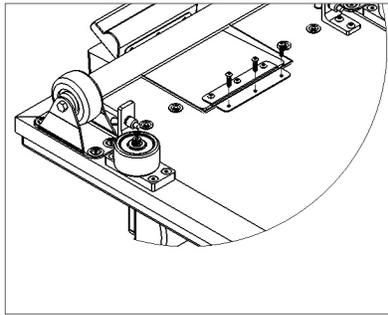

Figure 4
- To move the headrest assembly, remove the 3 screws from the carriage side of the hinge and discard as shown in Figure 4. Move the headrest assembly to new carriage and install provided screws into new carriage.